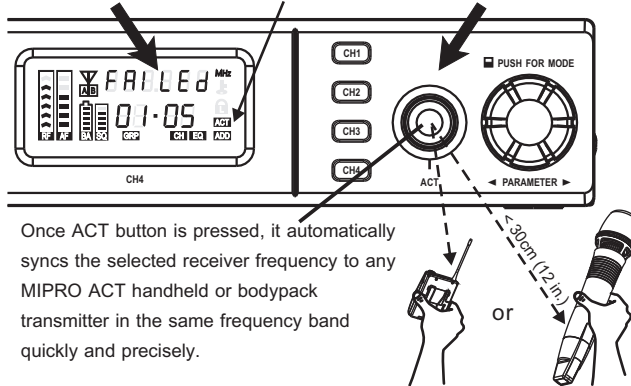
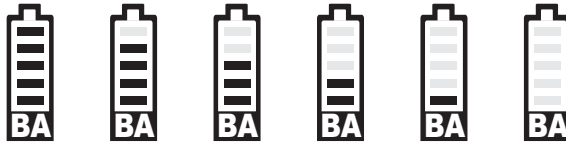

Fig.24
Fig. 25
- (1) Align both infrared ports of transmitter and receiver. Press the ACT button on the receiver, the word "Sync" is displayed to denote frequency synchronization is in progress. FAILED appears after 10 seconds if the synchronization was performed unsuccessfully. Repeat ACT synchronization set-up.
- (2) For a successfully ACT frequency synchronization, make sure transmitter is powered on, infrared ports are facing each, and within 30cm distance, Fig.24.
- (3) A successful ACT synchronization transmits both frequency and a randomly generated encrypted key to the transmitter.
(A) Battery Meter: The battery meter is lit when the transmitter is powered on. The battery meter gives a percentage (%) indication of remaining battery life, as shown. Replace with new, fresh batteries when battery indicators fall to 10% (1 indicator remaining), Fig. 25.